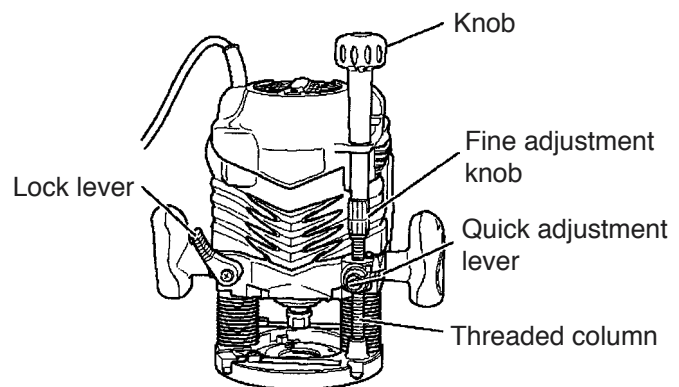

Fig. 3
③ How to adjust finely (Fig. 3)